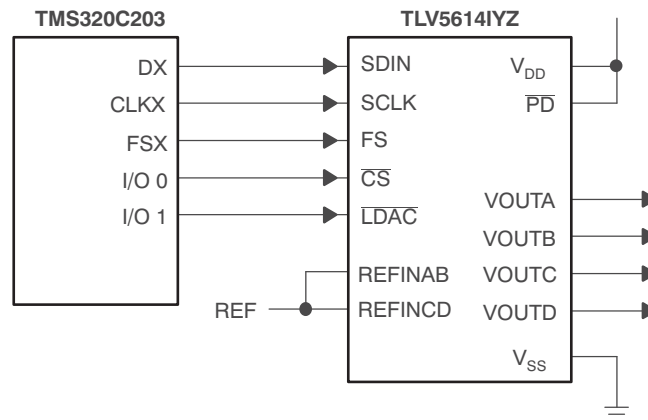

Figure 17. TLV5614IYZ Interfaced With TMS320C203
Figure 17 shows an example of how to connect the TLV5614IYZ to a TMS320C203 DSP. The serial port is configured in burst mode, with FSX generated by the TMS320C203 to provide the frame sync (FS) input to the TLV5614IYZ. Data is transmitted on the DX line, with the serial clock input on the CLKX line. The general-purpose input/output port bits IO0 and IO1 are used to generate the chip select (\overline{CS}) and DAC latch update (\overline{LDAC}) inputs to the TLV5614IYZ. The active low power-down (\overline{PD}) is pulled high all the time to ensure the DACs are enabled.